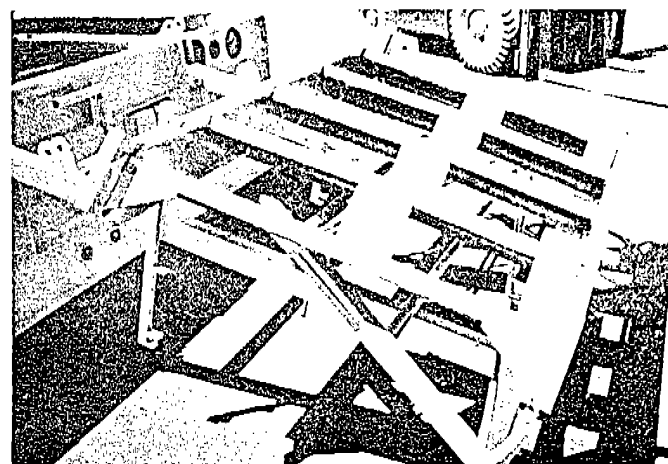

Fig. 90
- b. Stack the one set of steps on top of the handrails. Hang one side of the step frame on the top racking bar with the tread plate facing up. Rest the other side of the steps frame on the lower racking bar. (Fig. 90)
- (1) Hang the cross bar of the step jack support frame over the top racking bar. Position the